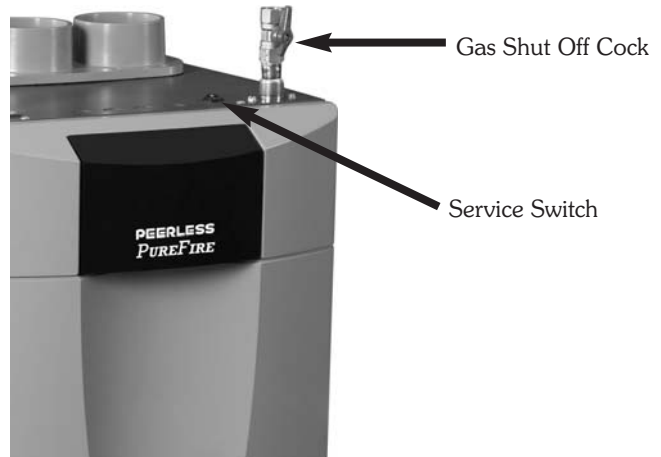

Figure 1
- Turn off all power to the appliance using the boiler service switch. Note that the convenience outlet is still powered when this switch is off. See Figure 1.
- Turn off gas supply to the boiler using the gas shut off cock located at the top of the boiler. See Figure 1.